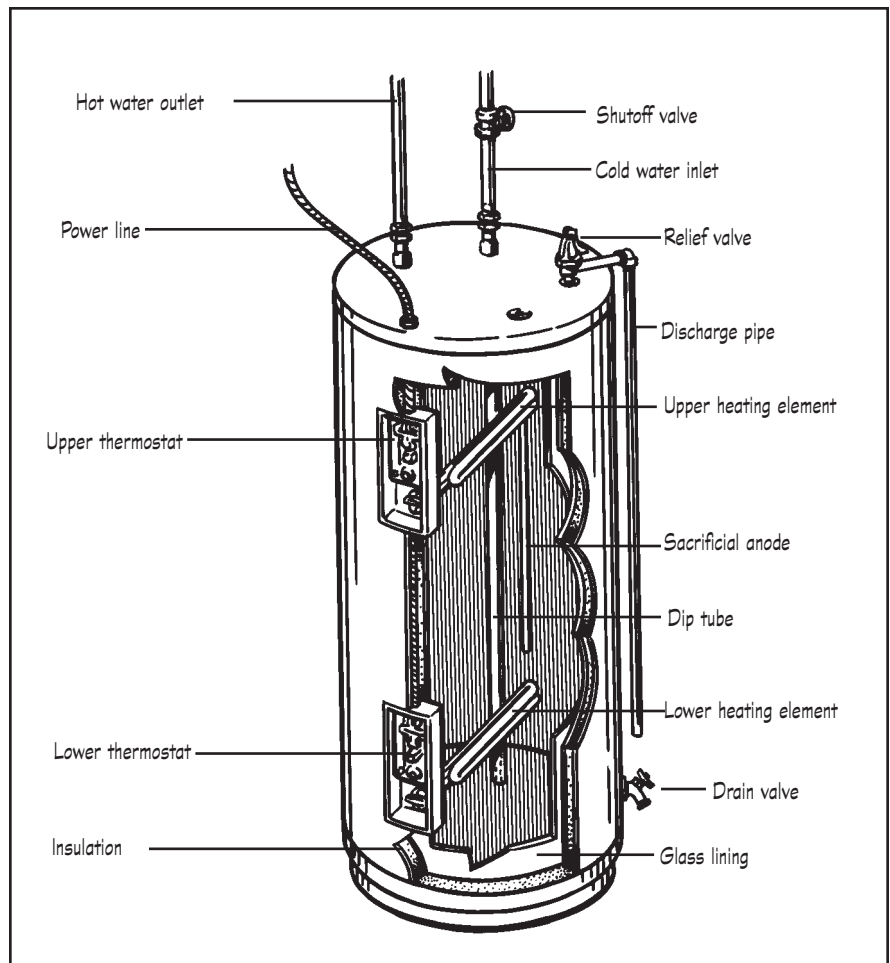

Figure 2
**Electric water heaters.** Electric models use resistance coils inside the tank (Figure 2). Electric water heaters typically have slower recovery rates and larger tank size than water heaters that rely on combustion. Some models have only one heating element, others have two. Quick recovery electric heaters are available.